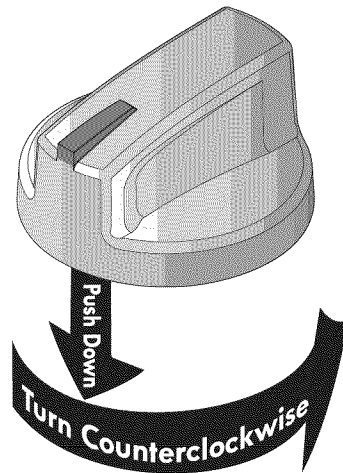

Figure 1
1. Push the left rear surface control knob in and turn **counterclockwise** out of the OFF position (See Figure 1).